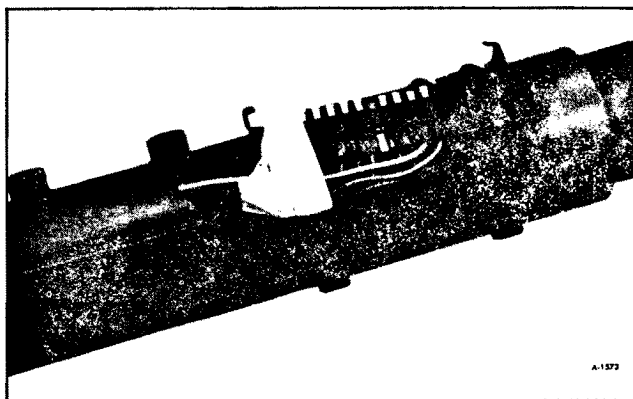

Figure 91—Connector and Wires Taped
5. Remove signal switch wire protector. DO NOT DAMAGE WIRES. (figure 90). Wrap a piece of tape around the upper connector and wires to prevent snagging when removing the switch. (figure 91)